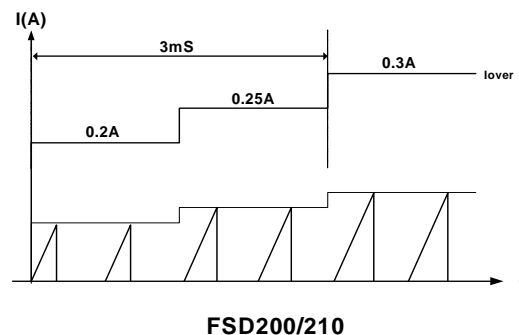

Figure 11. Internal Soft Start
5. Soft Start : FSD200/210 has an internal soft start circuit that gradually increases current through the Sense FET as shown in figure 11. The soft start time is 3msec in FSD200/210.